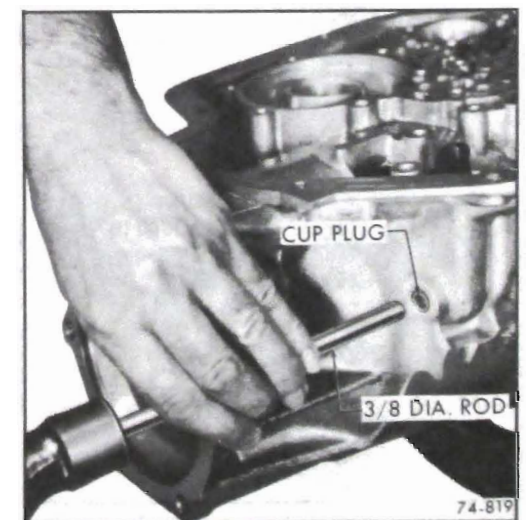

Figure 76-748
3. Install cup plug and drive into case, using a 3/8" dia. rod, until parking pawl shaft bottoms on case rib. See Figure 76-748.